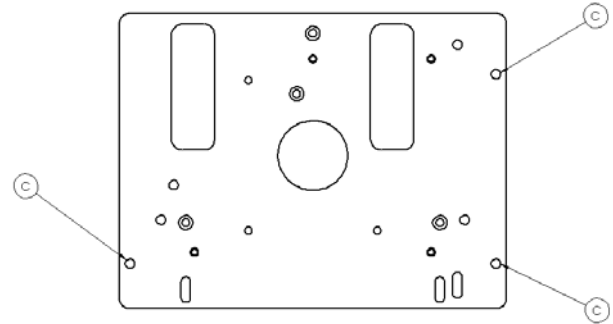

Figure 3. Group C Hole Alignment
4. Using Figure 3, find the proper mounting holes in SLB-9000 for your projector.